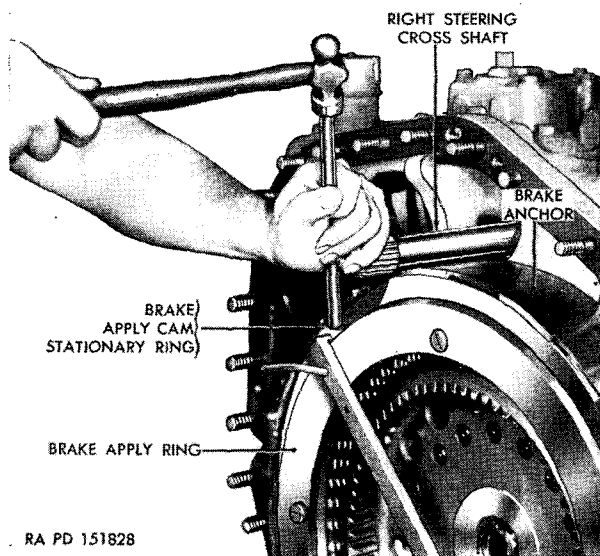
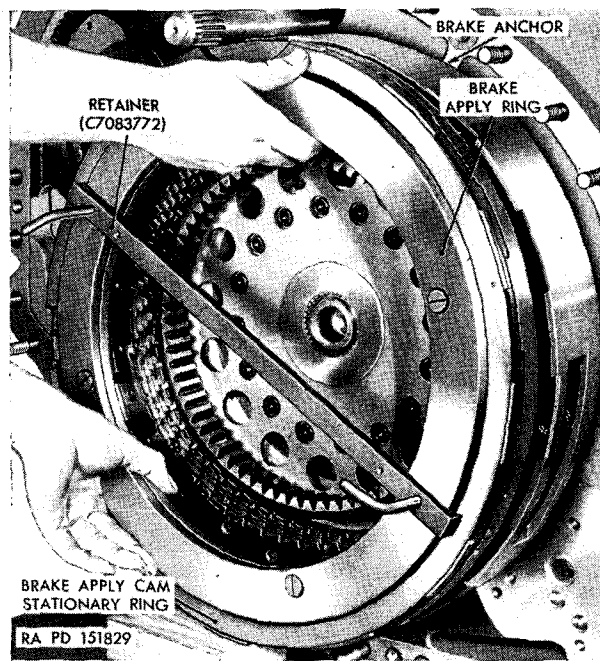

Figure 89. Rotating brake-apply-cam stationary ring.
Figure 90. Removing or installing brake-apply ring assembly.
- (3) Install the brake-apply ring and brake-apply-cam rotating ring retainer (C7083772) to prevent spilling the 229 ball bearings located between these two parts. See figure 90.
- (9) With the retainer still in place, use a soft drift to rotate the brake-apply-cam stationary ring (fig. 89) until the ring can be removed from the brake-anchor (fig. 90).